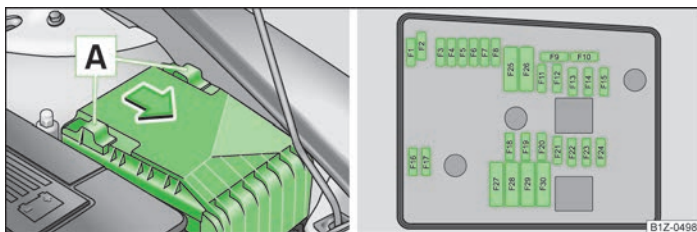

Fig. 159 Fuse box cover in engine compartment/Schematic diagram of the fuse box
- The cover for the fuse box is removed by pushing the circlips **A** » Fig. 159 upwards as far as the stop. The symbol is displayed behind the clip. Now remove the cover.